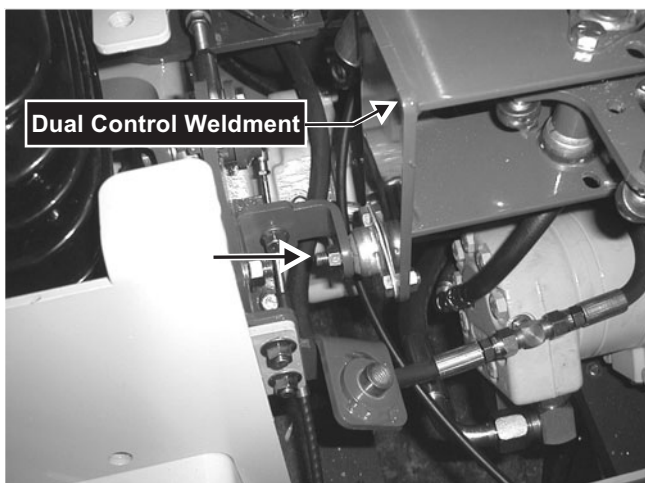

Fig. 6-22 Location of capscrew, spacer and locknut securing dual control weldment on lower right side.
7. Remove capscrew, spacer and locknut on lower right flange bearing of dual control weldment. **Fig. 6-22**